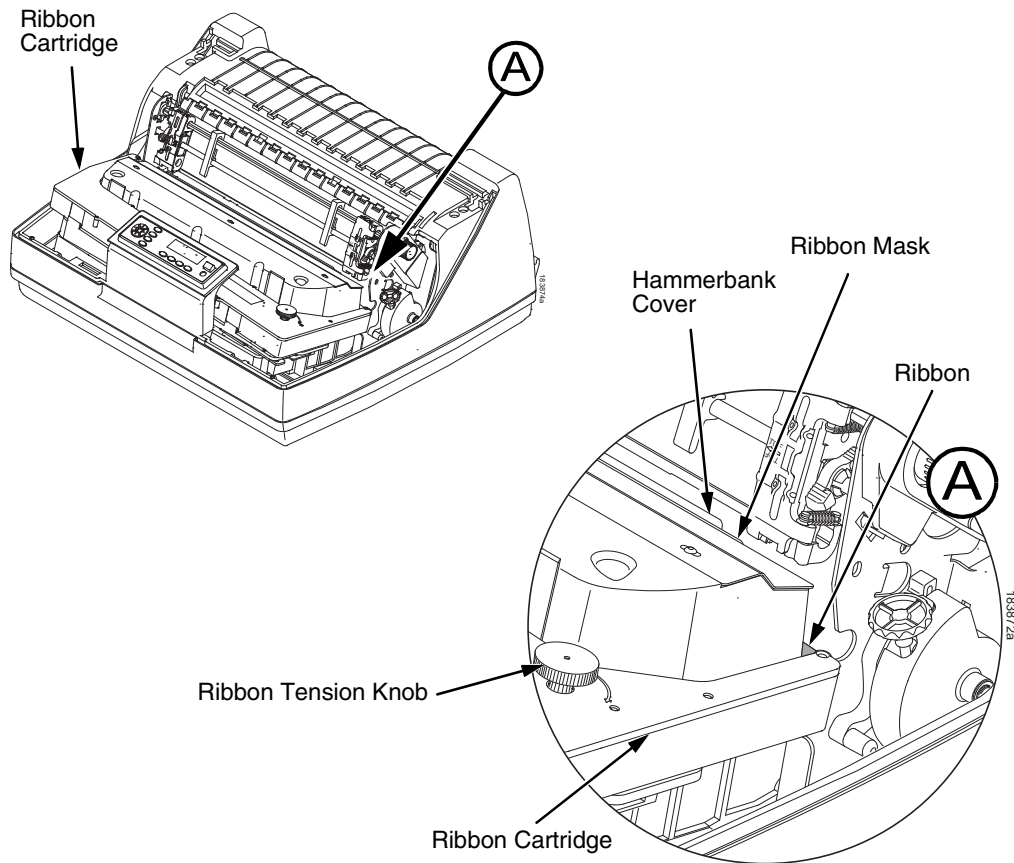

Figure 21. The Ribbon Cartridge Snapped in Place
7. Rock the cartridge downward, making sure that the ribbon goes between the guide and the mask (see Figure 21). You will feel it snap into place.